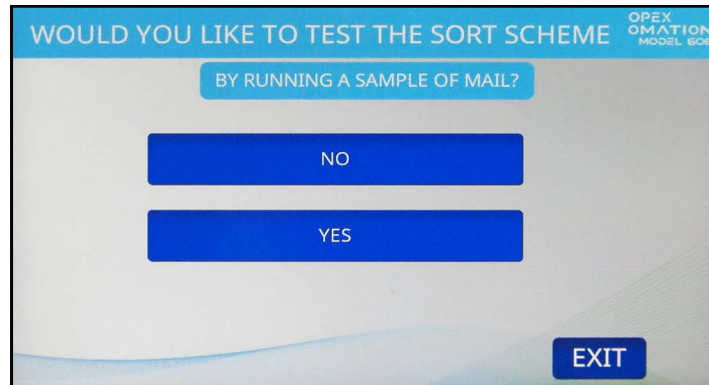

Figure 6-25: Confirmation run screen
9. The next screen allows running primary and secondary mail samples to test the sort scheme (Figure 6-25). Press **YES** to continue